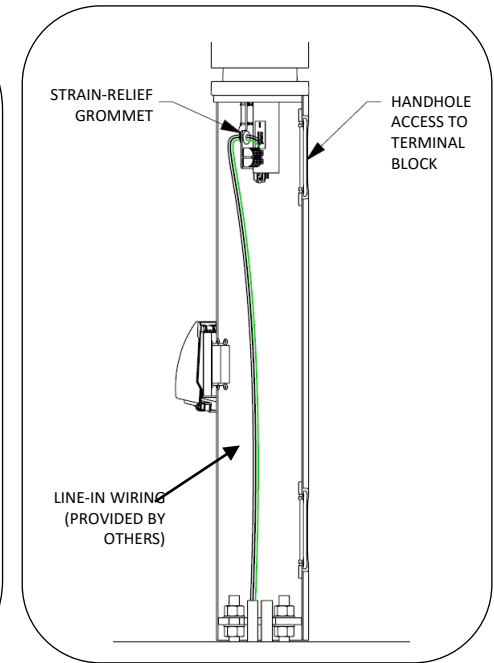

FIG. 4 – WIRING CONNECTION
2. Make wiring connections as required. Line-in wiring should run from backside of driver plate through strain-relief grommet and into terminal block, see Fig. 4.